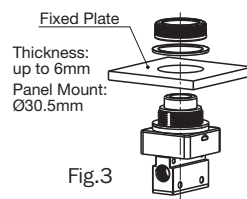

Fig.3
- Manual Valves K3M3Y, K3M3PF, K3M3PP, and K3M3HS see Fig.3 for mounting.